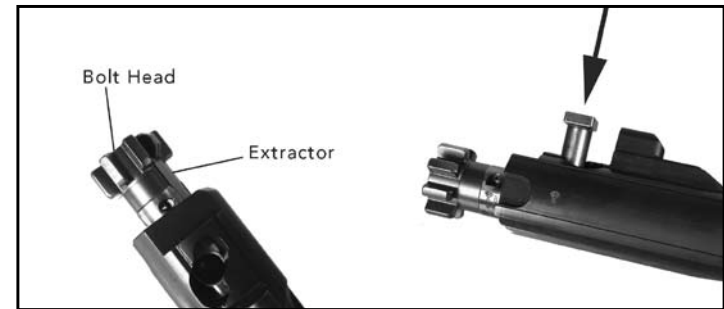

Fig. 45 – Bolt Carrier reassembly
- b. Insert the cam pin into the shaft of the bolt carrier, ensuring that the hole for the firing pin on the cam pin is aligned with the firing pin tunnels on both the bolt head and bolt carrier (Fig. 45).